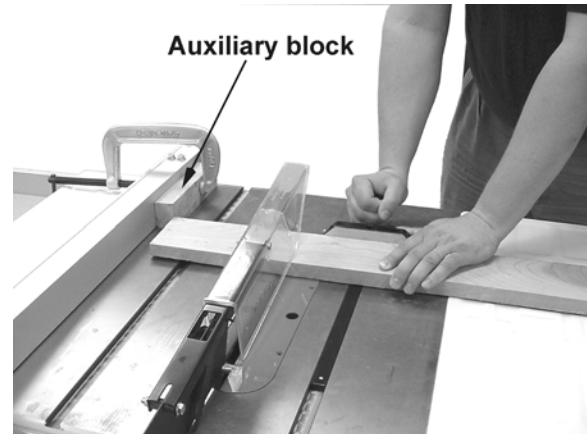

Figure 35
- ❑ Do not use the miter gauge and rip fence in the same operation unless provision is made by use of a facing board (auxiliary block) on the fence so as to allow the cutoff section of the workpiece to come free before the next cut is started (see Figure 35).
Crosscutting should **never** be done freehand nor should the fence be used as an end stop unless an auxiliary block is clamped to the front of the blade area such that the cutoff piece comes free of the block before cutting starts (Figure 35).